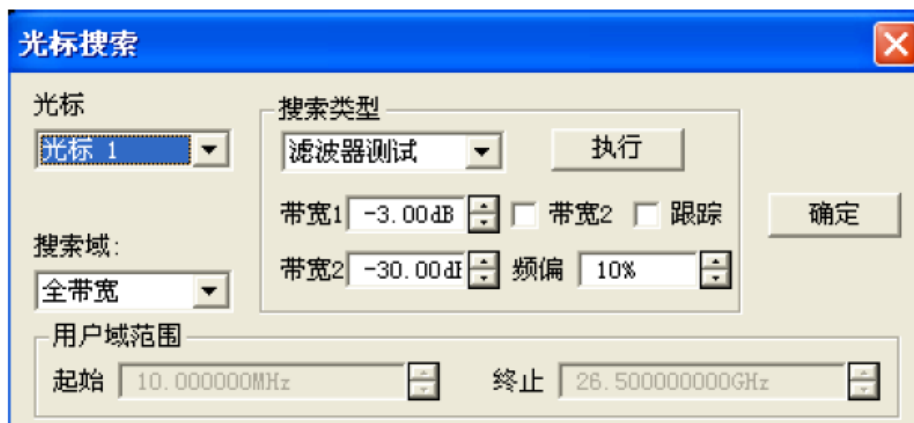

Fig. 3.51 Filter Test
- **Filter test:** the analyzer has a special shortcut function to test the filter, and all test parameters will be automatically displayed on the screen so that the user can directly observe measurement results. As manual setting in the test is eliminated, the speed of filter test is greatly increased. As shown in Fig. 3.51.